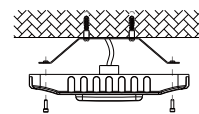

Figure10
- 3.Mount the fixture on the mounting plate by supplied screws.(Figure 10)